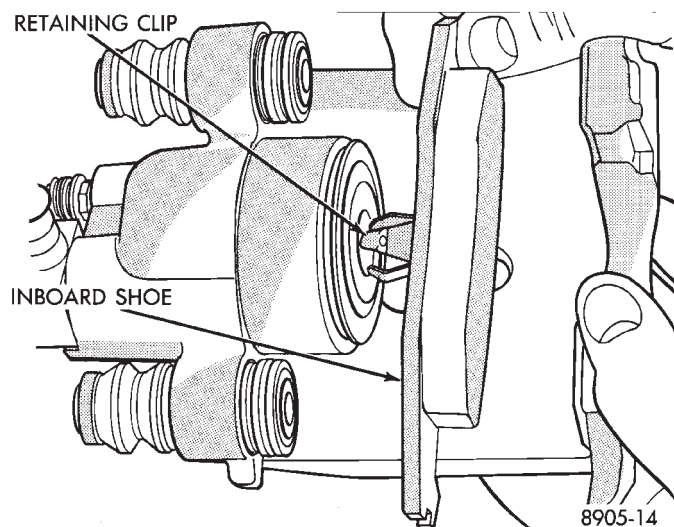

Fig. 5 Removing Inboard Shoe
(6) Pull inboard shoe away from piston, until the retaining clip is free from the cavity in the piston. (Fig. 5).